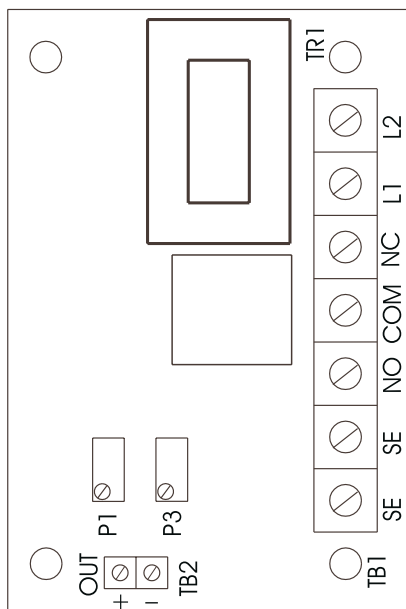

Figure 3
3. Locate the high-humidity alarm circuit board (refer to Figure 3).
6. With a small slotted screwdriver, adjust P1 on the high-humidity circuit board (Figure 3) clockwise and counterclockwise. Find the adjustment point where the contacts open and close. Leave adjustment where the contacts just close.